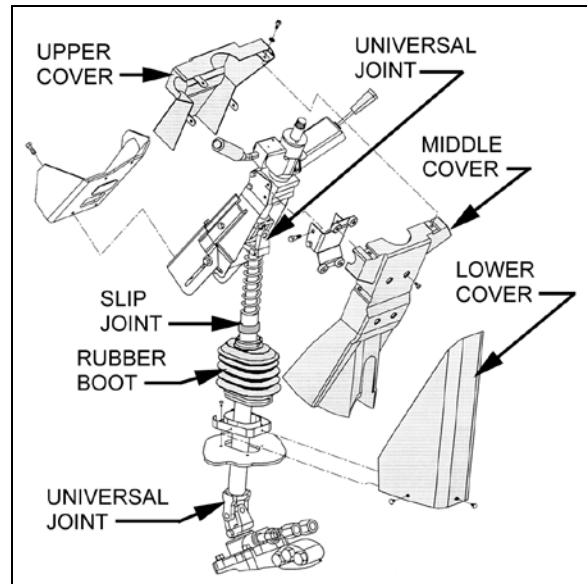

FIGURE 8: STEERING COLUMN COVERS
To disassemble the steering column from system, refer to figure 8 & 9. The steering column has no lubrication points. The lower steering column U-joint is easily accessible through the front service compartment. The upper steering column U-joint and the steering slip joint are accessible from the front driver's area. To access these joints, proceed as follows:
1. From the front driver's compartment area, remove the three plastic fasteners on steering column lower cover. Remove the lower cover (Figure 8).
2. Remove the 2 clockspring mounting screws and then remove the clockspring. You will have to disconnect the clockspring harness connector located lower along the steering wheel column. If necessary, remove the steering column covers (Figure 8).